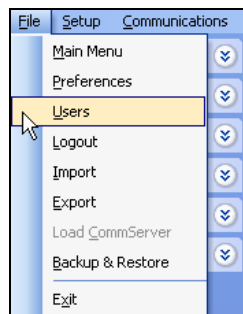

Figure 1.3.1
1. In the toolbar at the top of the screen select **File** and then scroll down to the word **Users** and click on it (Figure 1.3.1).